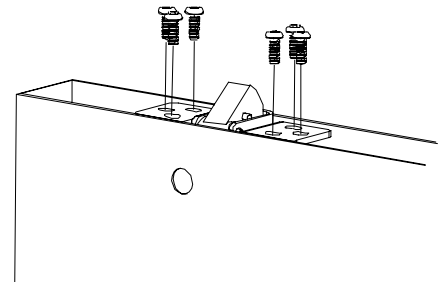

Figure 6-5
- 6.4. Fasten latch to door with supplied screws (Figure 6-5).